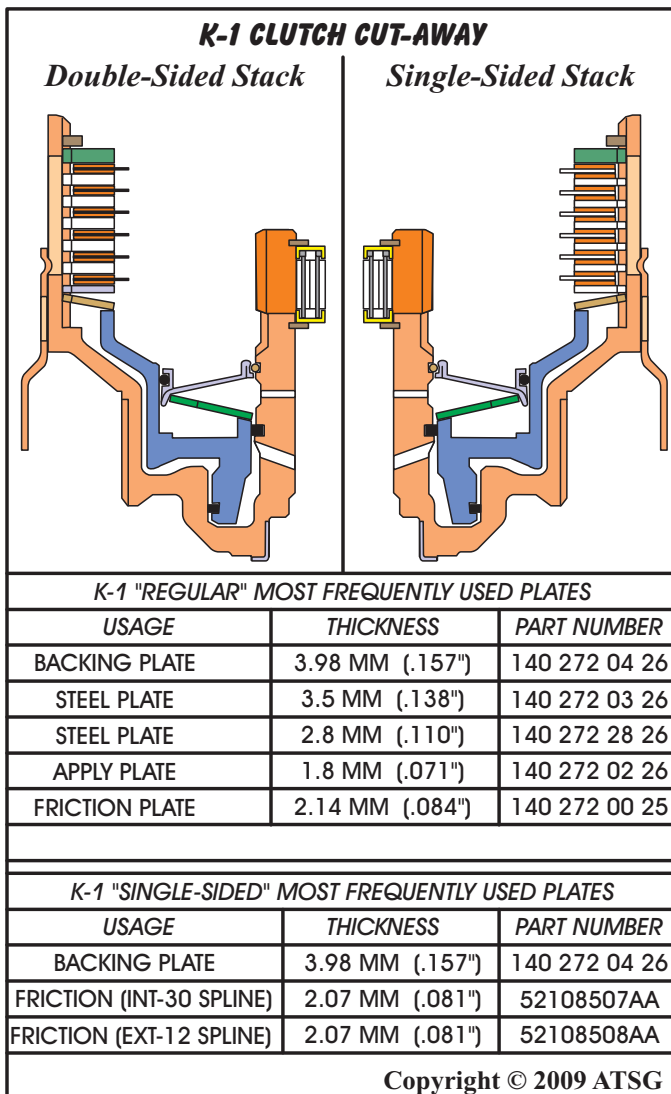

Figure 95
32. We have provided you with frequently used part numbers for the clutches in Figure 95. Keep in mind that part numbers can change without notice.